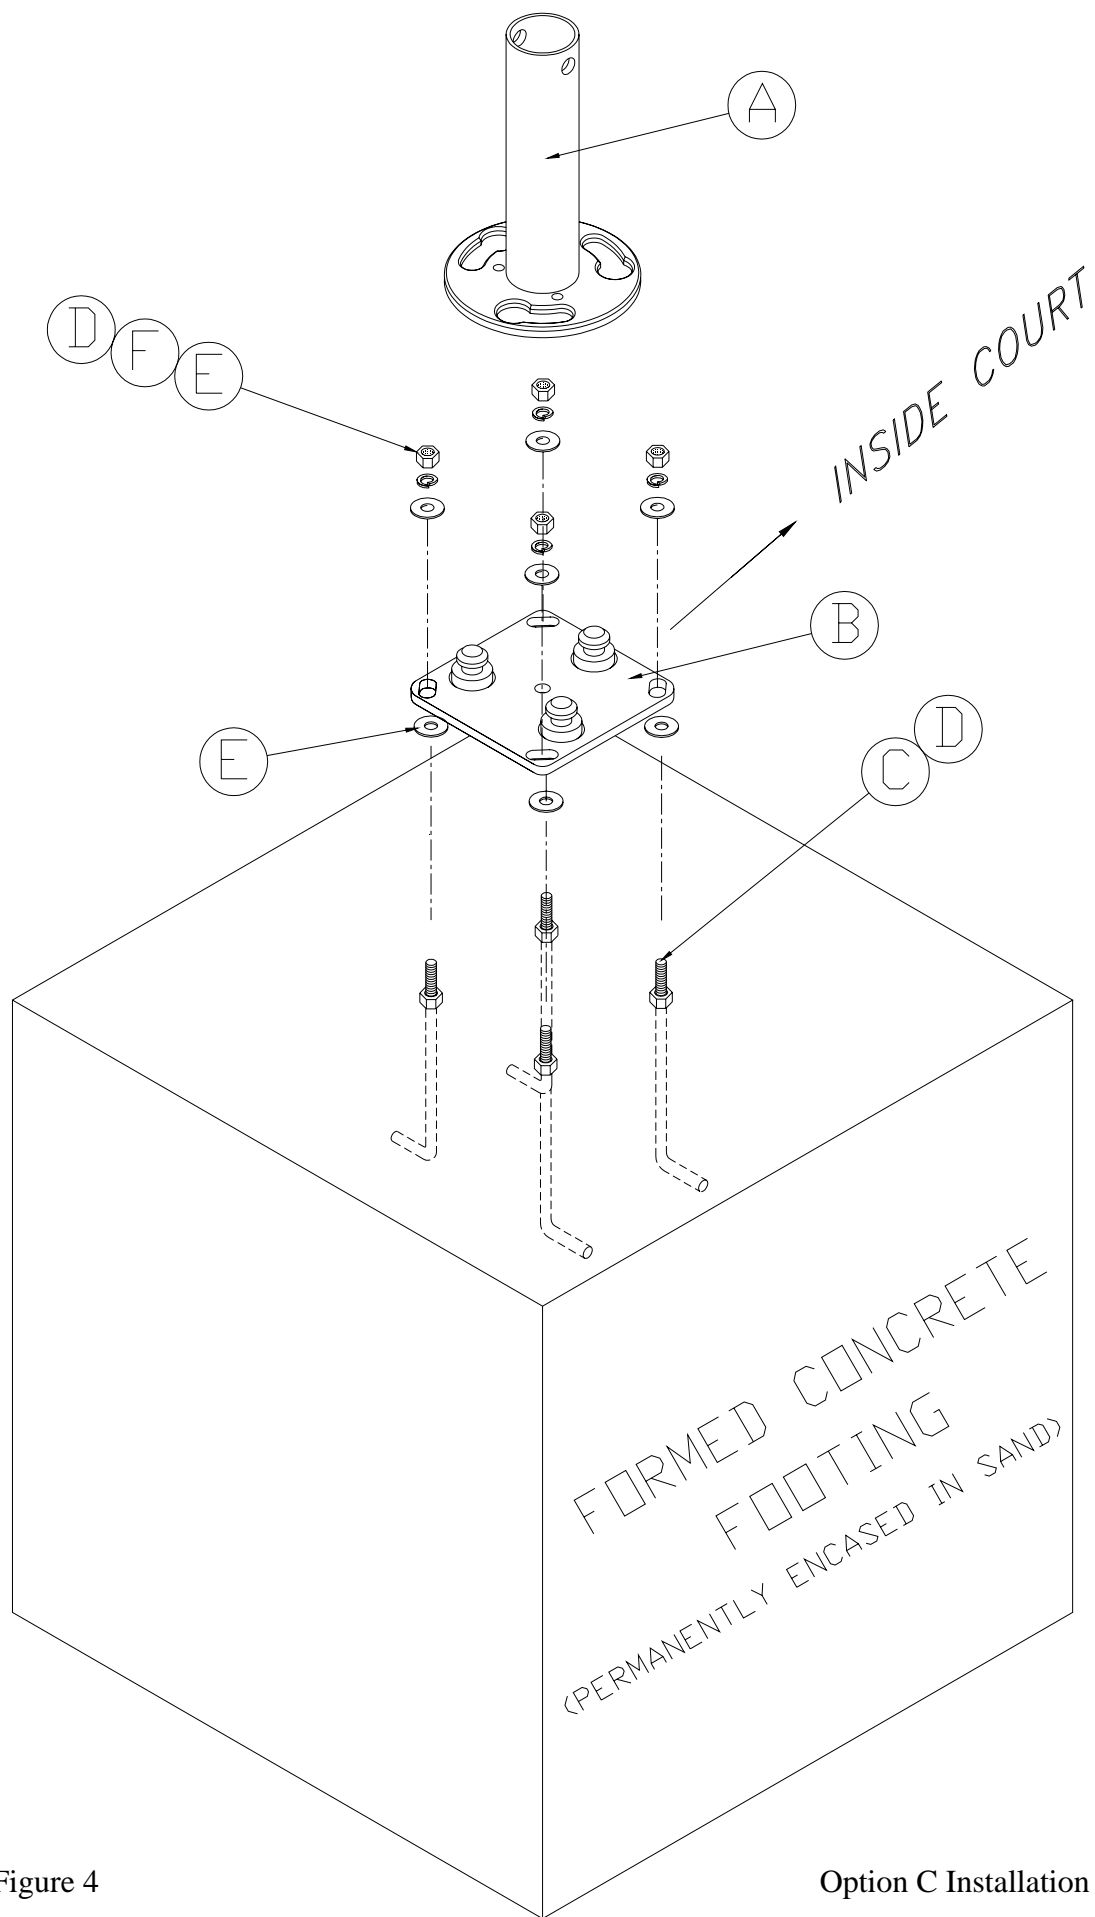

Figure 4
- C1. Follow all instructions for Installation Option A except that instead of digging a hole in compacted soil for the footing, field construct a plywood form that is 36" x 36" x 36" with the top of the form being approximately 16" for SVB27, 12" for SVB23 below the final playing surface. See Figure 4.